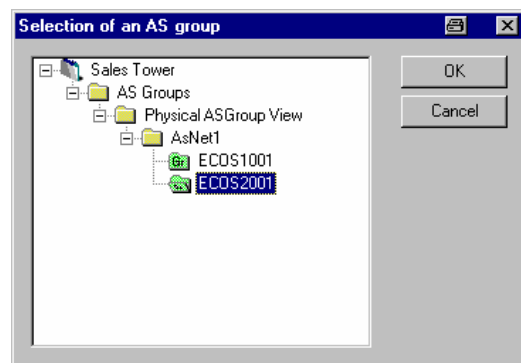

Fig. 9-37: Selecting an AS group
2. From 'Selection of an AS Group', select an AS group (see Fig. 9-37).